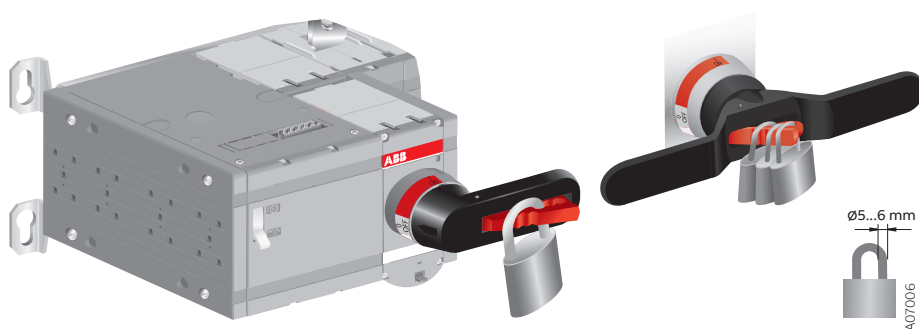

Figure 5.8 Locking the manual operation
2. Pull out the clip from the handle and place the padlock on the handle; see Figure 5.8.